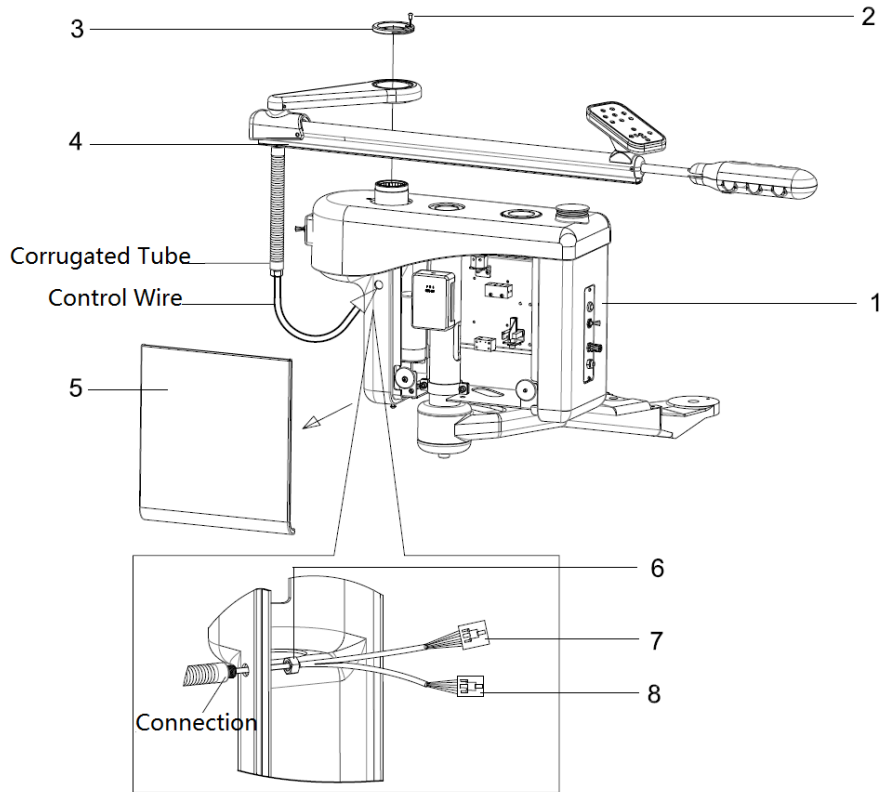

Figure 5: Assistant's Rotating Arm Installation
1. Place the assistant's rotating arm ④ into the side box top pole.
2. Install the rotating arm top cap ③ on the top pole.
3. Install the set screw ② on the rotating arm top cap ③.
4. Remove the side box front cover ⑤.
5. Insert both the 7-pin electrical connector ⑦ and the 6-pin electrical connector ⑧ into the side box hole opening as shown on Figure 5 exposed view.
6. Insert the hex nut ⑥ over the electrical connectors.